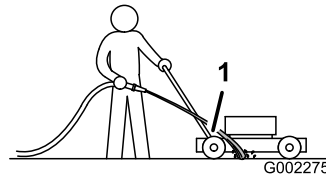

Figure 40
3. Hold the running garden hose at handle level and direct the water to flow on the ground just in front of the **right** rear tire (Figure 40).